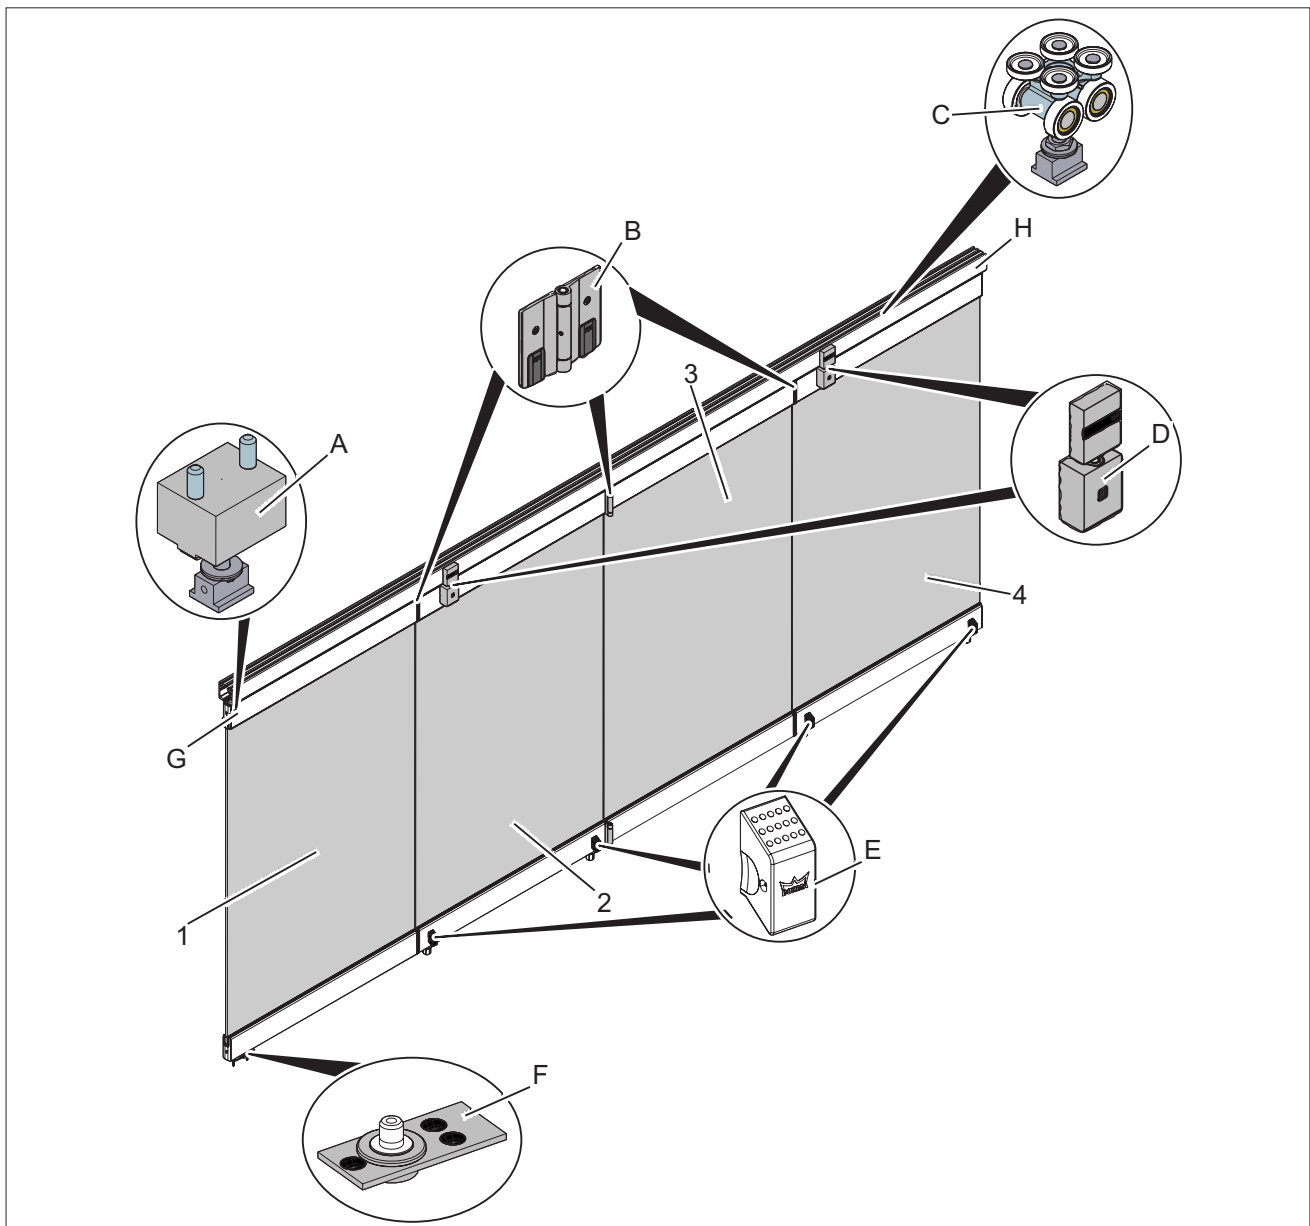
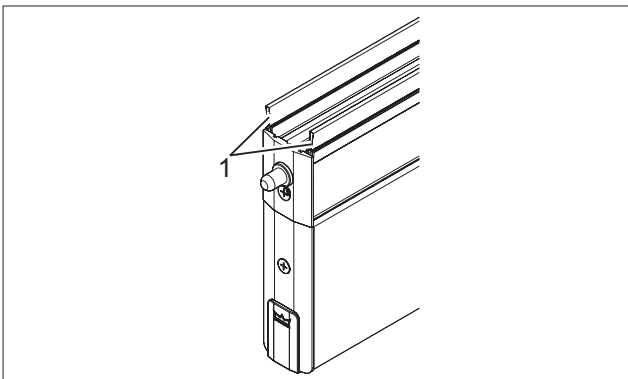

Fig. 1 Folding sliding wall overview (sample model)
Fig. 2 Brush seals
- Base panel (Fig. 1/1)
- Folding panel (Fig. 1/2 – 4)
- Folding panel (Fig. 1/2)
- Final folding base panel (Fig. 1/3)
- Final folding panel (Fig. 1/4)
- Upper pivot bearing (Fig. 1/A)
- Hinge (Fig. 1/B)
- Track roller (Fig. 1/C)
- Upper slide bolt (Fig. 1/D)
- Face-mounted slide bolt (Fig. 1/E)
- Floor pivot (Fig. 1/F)
- Door rail (Fig. 1/G)
- Track rail (Fig. 1/H)
The folding sliding walls (Fig. 1) FSW EASY Safe and FSW EASY Safe-C/-C-Plus are suitable for indoor use.
The panels (Fig. 1/1 – 4) are mounted in the track rail (Fig. 1/H). Folding panels are opened in pairs. Depending on the system type, the folding sliding wall can be opened in one or both directions. The base panel (Fig. 1/1) is the first panel in the system and is fixed; it cannot be moved. In the FSW EASY Safe-C/-C-Plus variant, it is half as wide (half panel width + 65 mm pivot) as the other panels. The opened folding panels are furthermore coupled with magnets in the FSW EASY Safe-C/-C-Plus variant.
The folding panels are connected to hinges (Fig. 1/B). Brush seals (Fig. 2/1) close the gap between the door rail and the track rail mounted above it.